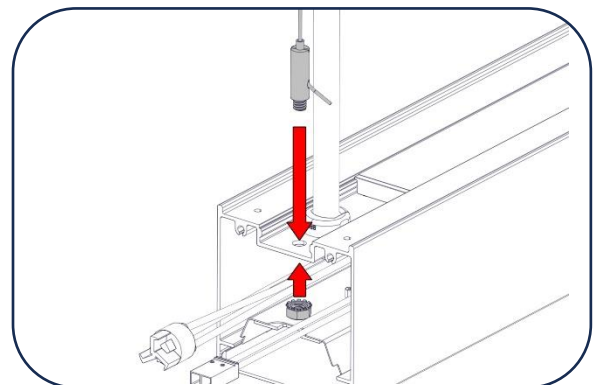

Figure 4
6. Remove the small rubber plug at each end of the fixture and install the **Mounting Cables**. Secure with the 1/4" lock nuts and replace the End Caps. [Figure 4]